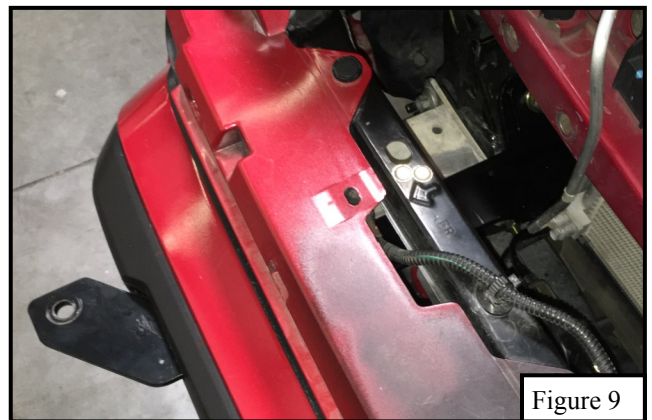

Figure 9
8. Insert (1) upper support strap through the recently trimmed slots on the bumper. Loosely attach the upper support straps onto the previously installed frame reinforced mount bracket using (1) medium M12 hex head cap screw, (2) small M12 flat washers, (1) M12 split lock washer and (1) M12 hex nut. Repeat for other side. **See Figures 9 and 10.**